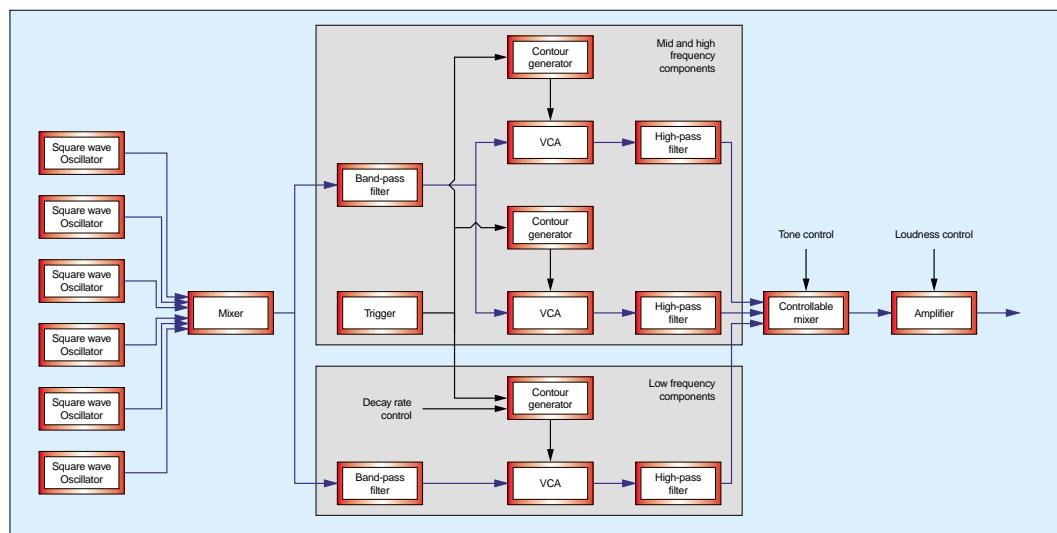

Figure 5: The TR808 cymbal in Synth Secrets format.
► on a conventional analogue synthesizer. Just for fun, I've drawn Figure 6 (below), which shows a modern analogue synth — an Analogue Systems RS Integrator — configured to emulate the TR808 cymbal. That's right... this monster of a patch is *just* the cymbal in Figure 5. Note that I have not set the knobs on these modules to appropriate values... simply selected and patched the modules needed to do the job.